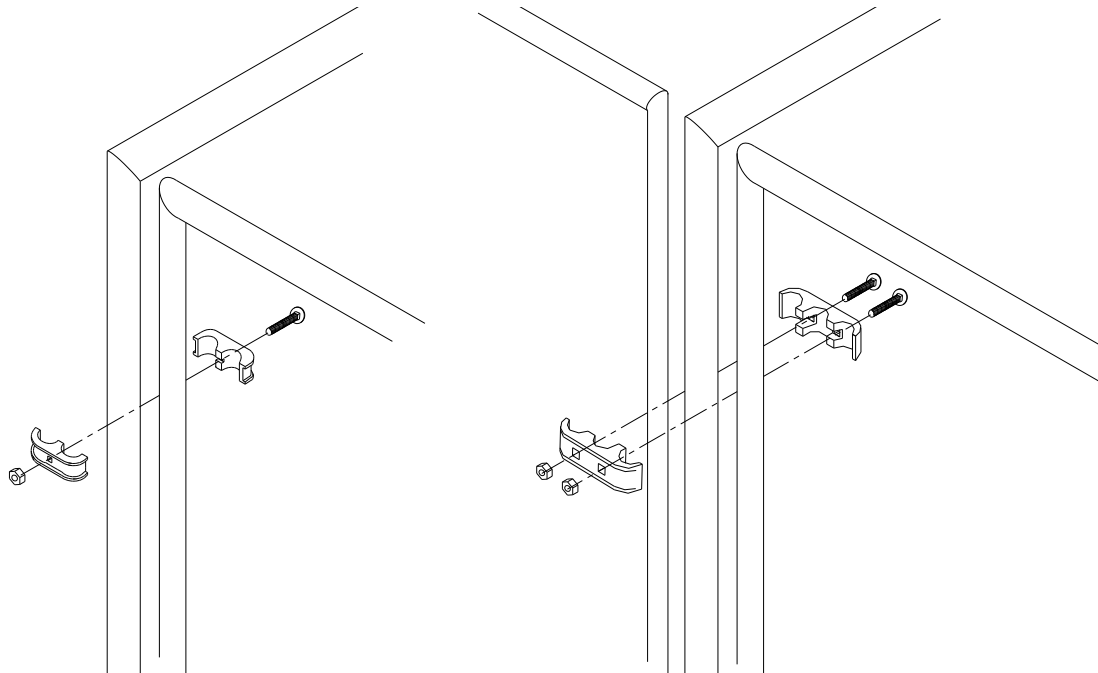
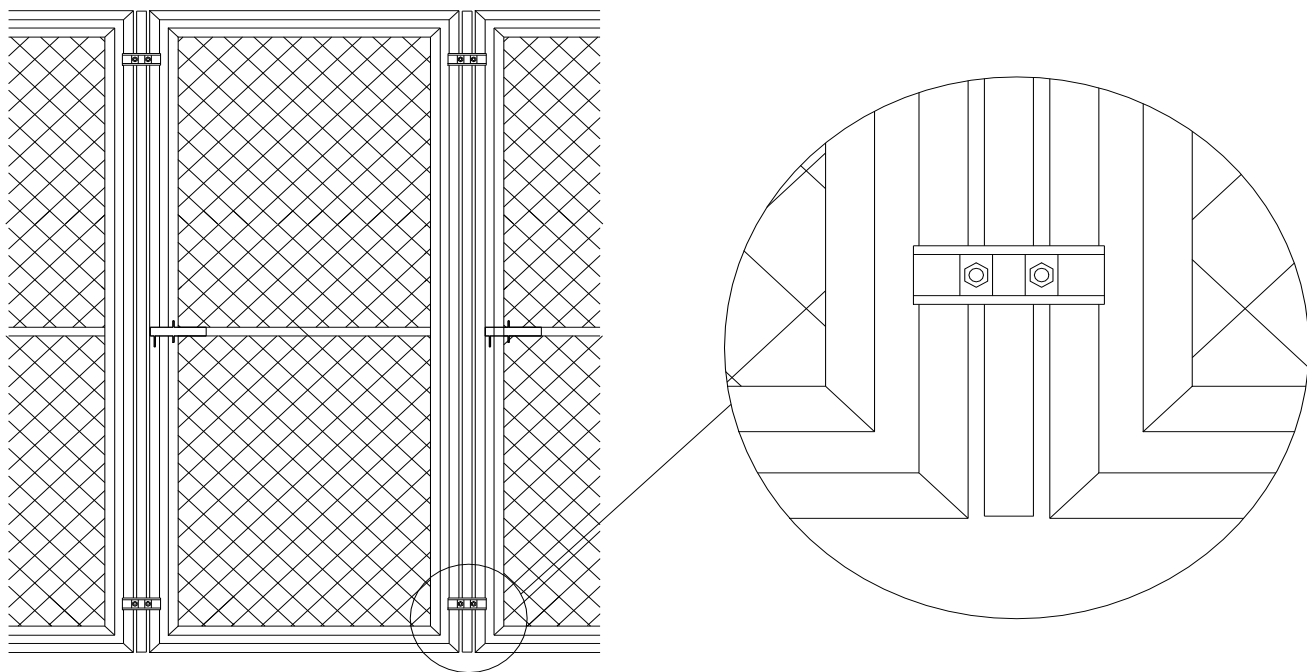

Figure 6
Figure 7
1. Attach the gate / stall front on the front of each division panel with two clamps on each side using the 5/16” x 1-1/2” bolts and nuts provided as shown in Figure 6. Note: It takes two halves to make up one clamp. Attach gates / stall fronts to outside division panels using “panel clamps”. All other gates / stall fronts will use “triple clamps”. **To help insure the safety of the animals the round head of the bolt should be assembled toward the inside of the run.** Note: The triple clamps attach two gates / stall fronts together. Therefore you will have to hang two gates / stall fronts at the same time (see Figure 7).